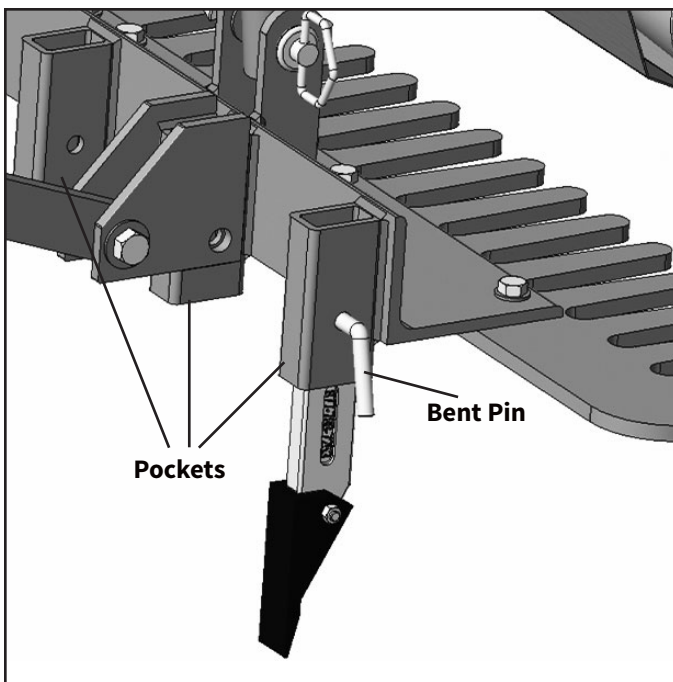

Figure 8: Scarifier installation
1. All mid-mount attachments utilize a universal set of brackets called "pockets" to attach to the mid-mount system. See **Figure 8**.